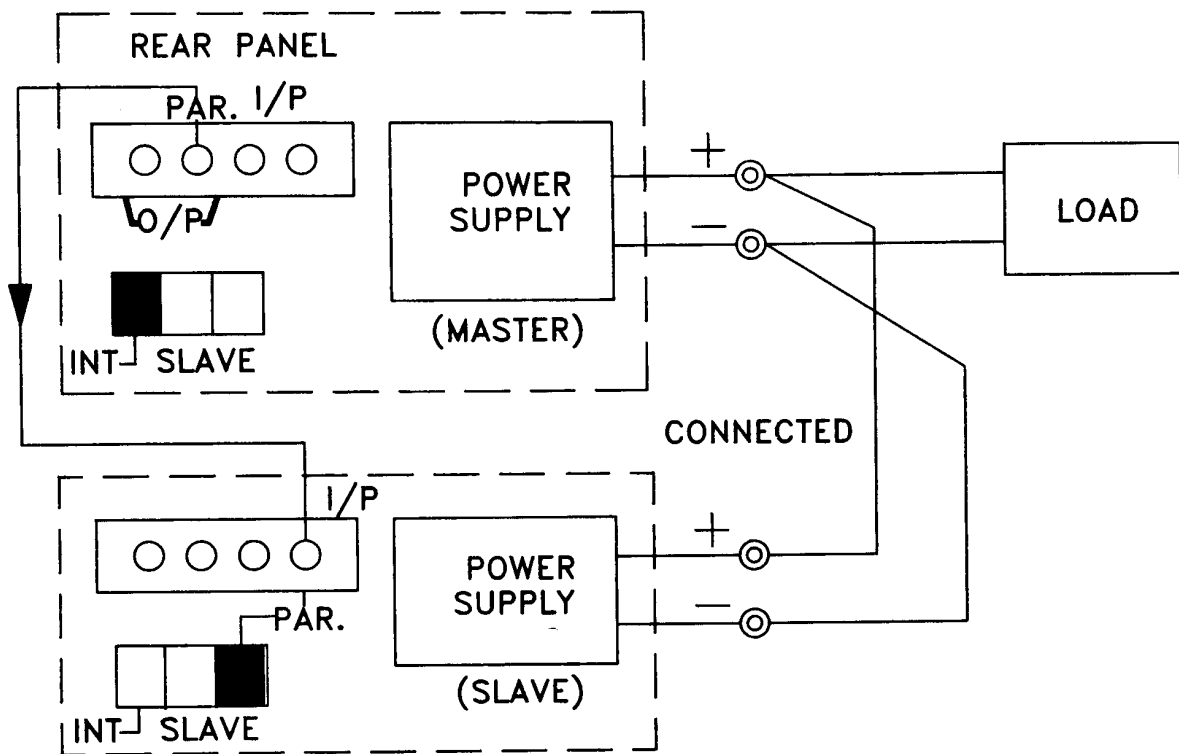

Fig. 5-3 Connecting Two Power Supplies in Parallel.
- (3) Parallel Operation
- Two power supplies may be connected in parallel to provide rating voltage and higher current output. See Fig. 5-3 for the connection scheme.